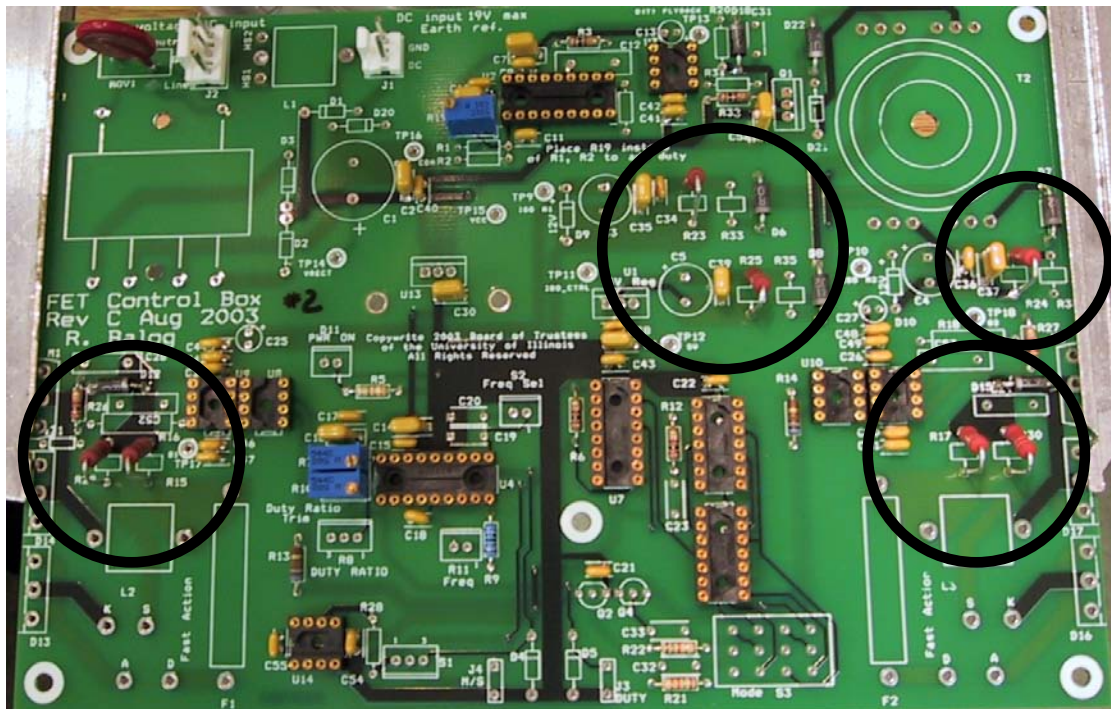
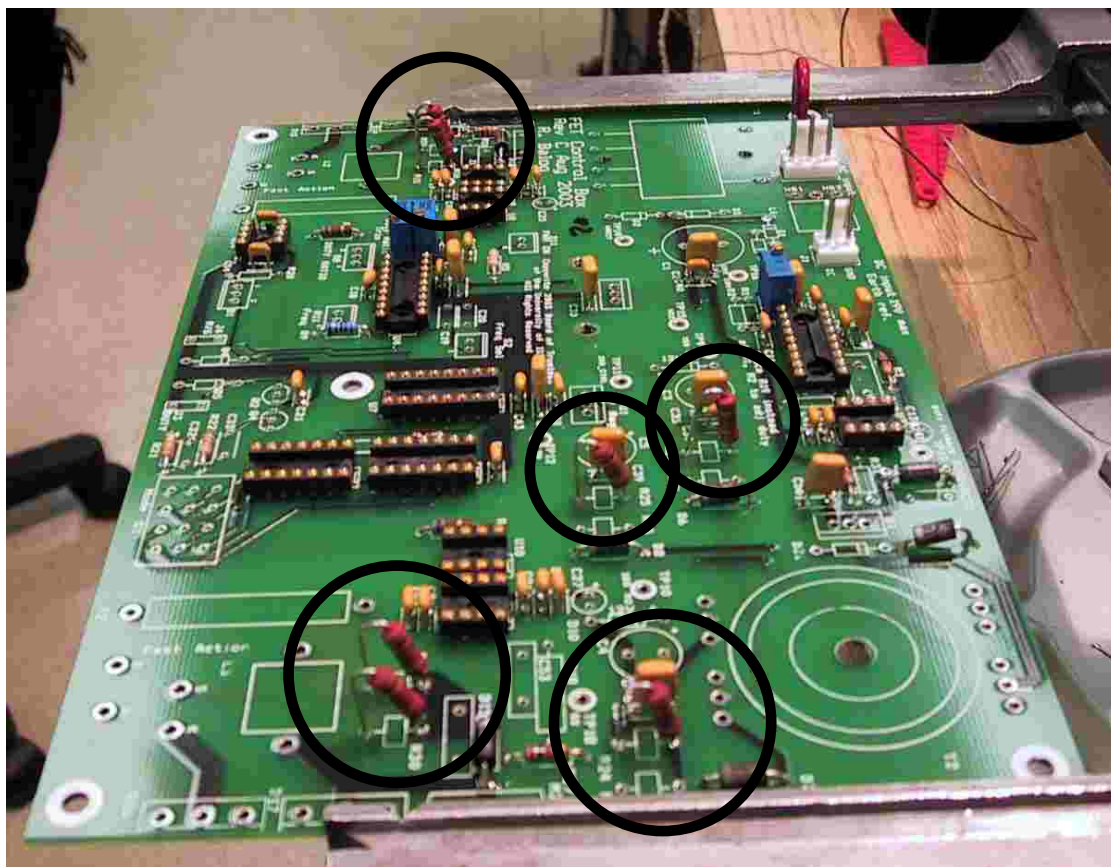

Figure 13: Hairpin 2W resistors
Figure 14: Orientation of Hairpin resistors
14. 1W and 2W resistors placed as "hairpins" per Figure 13 and Figure 14.